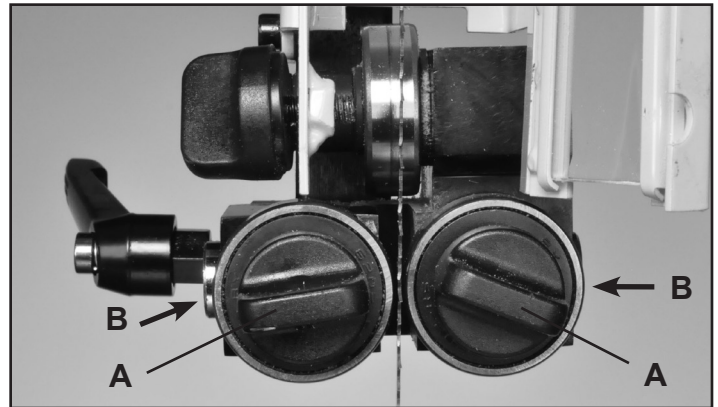

FIGURE 22
1. Position the right and left roller guides relatively close to the blade. First, loosen their front Lock Handles (#39E Fig 22, A). The Guide Shafts (#35E) that hold the guide bearings are spring loaded! To move the guides towards the blade, simply push the ends of the guide shafts (B), or use the front lock handles to pull the guides towards the blade. Lock the guides in place. Fig. 22.